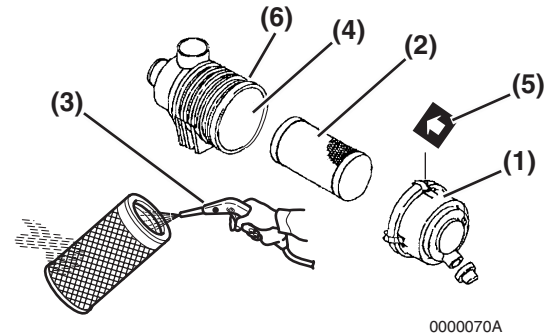

Figure 5-12
Note that a typical air cleaner is shown in **Figure 5-12** and **Figure 5-13** for illustrative purposes only.
1. Unlatch and remove the air cleaner cover (**Figure 5-12, (1)**).
2. Remove the element (**Figure 5-12, (2)**) (outer element if equipped with two elements).
3. Blow air (**Figure 5-12, (3)**) through the element from the inside out using 42 - 71 psi (0.29 - 0.49 MPa; 3.0 - 5.0 kgf/cm²) compressed air to remove the particulates. Use the lowest possible air pressure to remove the dust without damaging the element.
8. Install the element into the air cleaner case (**Figure 5-12, (4)**).
9. Reinstall the air cleaner cover making sure you match the arrow (**Figure 5-12, (5)**) on the cover with the arrow on the case (**Figure 5-12, (6)**).
Replace the air cleaner element (**Figure 5-12, (2)**) every 500 hours even if it is not damaged or dirty.
When replacing the element, clean the inside of the air cleaner case (**Figure 5-12, (4)**).